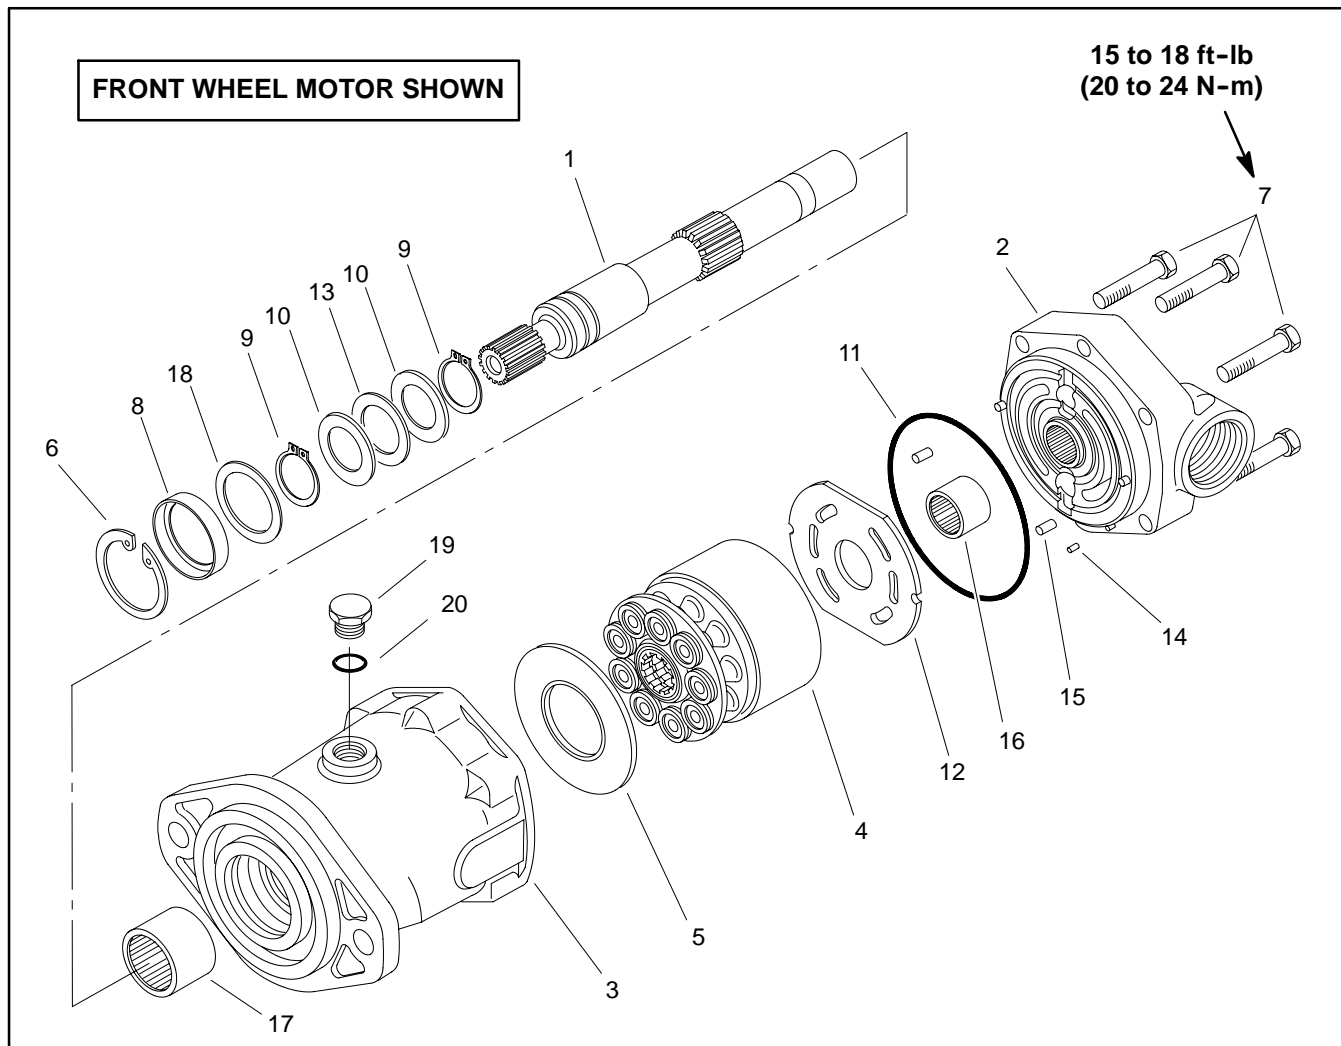

Figure 66
**NOTE:** The front wheel motors (shown in Figure 66) are identical. The rear axle motor is similar to the front wheel motors. Service of the front and rear motors requires the same procedure.
**NOTE:** The rear axle motor **does not** have a shaft seal (item 8). The case drain from the rear axle motor provides lubrication for the input gear case of the rear axle.